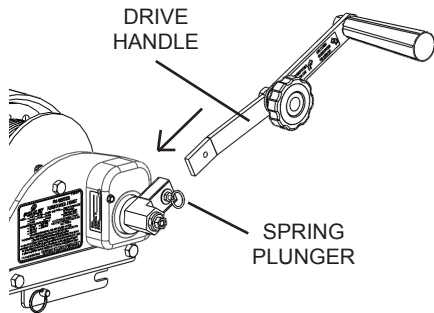

Figure 5l
- a. Prior to attaching the entrant to the hoist line, ensure that the drive handle is installed on the hoist. See Figure 5l & 5m.